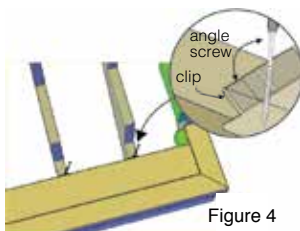

Figure 4
- Face-screw the back of each final tread board within 3/4" of the ripped edge (fig. 4). Screws will be covered by risers.